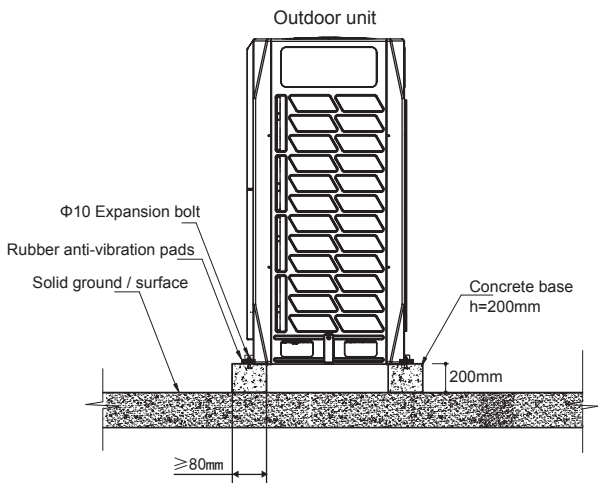

Fig.4-11
- A typical concrete base design is shown in Figure 4-11. A typical concrete specification is 1 part cement, 2 parts sand and 4 parts crushed stone with  $\Phi 10$ mm steel reinforcing bar. The edges of the base should be chamfered.